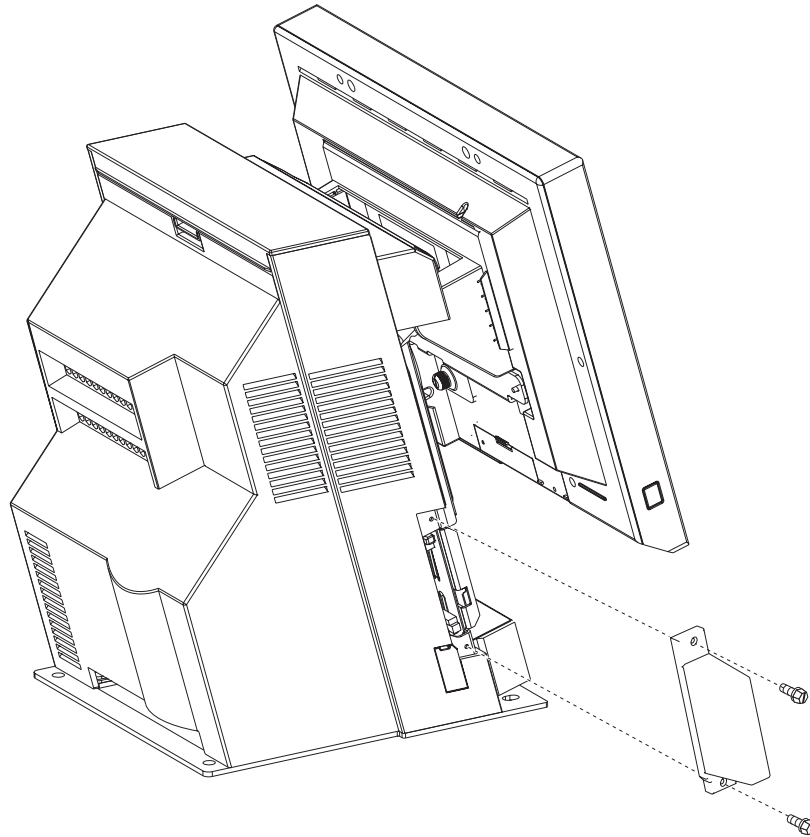

Figure 21. Removing a PC card adapter
4. If a wireless LAN antenna cover is present, remove the two screws, as shown in Figure 21 on page 33.